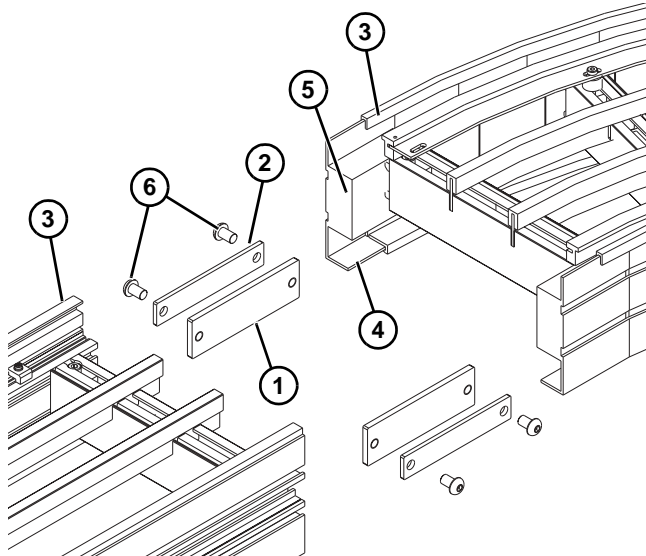

Figure 6
Typical Curve Connecting Components (Figure 6)
2. Install two clamp plates (Figure 6, item 1) into one conveyor section (Figure 6, item 2) by lining up two holes in clamp plate with two holes in conveyor frame. Install two M8x16 low head cap screws (Figure 6, item 3) to secure each clamp plate.
3. Join both conveyor sections, and secure with two M8x16 low head cap screws (Figure 6, item 3) on both sides. Tighten all cap screws to 84 in-lb (9 Nm).